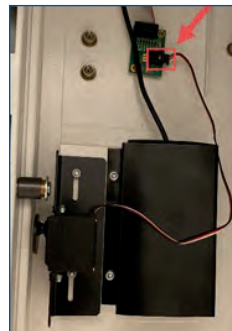

Fig. 4
3. Disconnect the wire connector/clip (Fig. 4) on inside of cart.